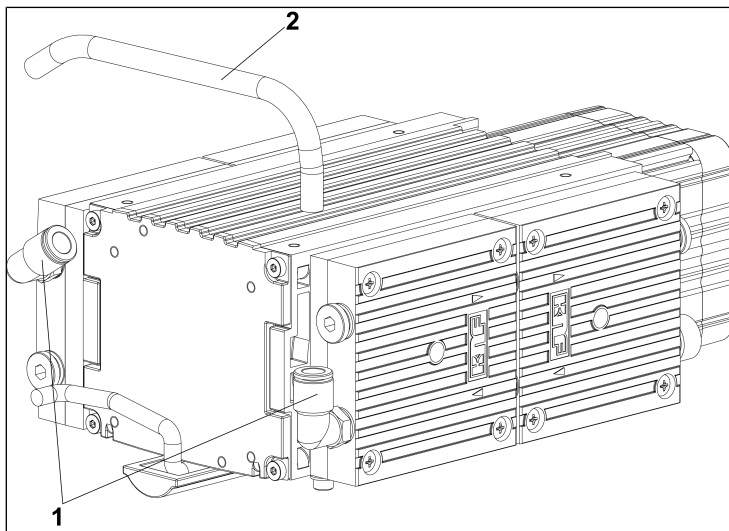

Fig. 5: Disassembly of the connection
1. Disconnect the connection tubing (2/Fig. 5) by pressing and holding down the release ring (1/Fig. 5).
2. Carefully pull the connection tubing (2/Fig. 5) out of the fitting.
1. Push the connection tubing (2/Fig. 5) into the fitting as far as it will go.